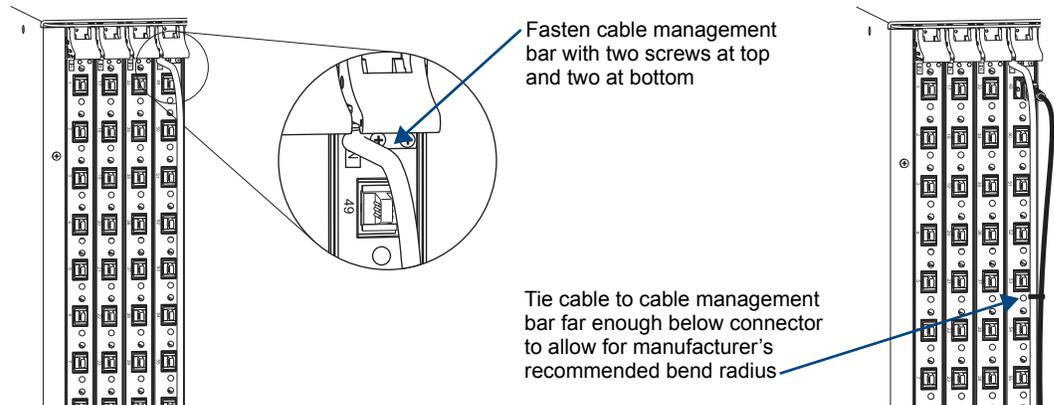

FIG. 8 Install cable management bars
1. Align the two screw holes on the end of the cable management bar with the two screw holes at the top of the board as shown at left in FIG. 8. (Note that the long part of the bar is left of the holes.)